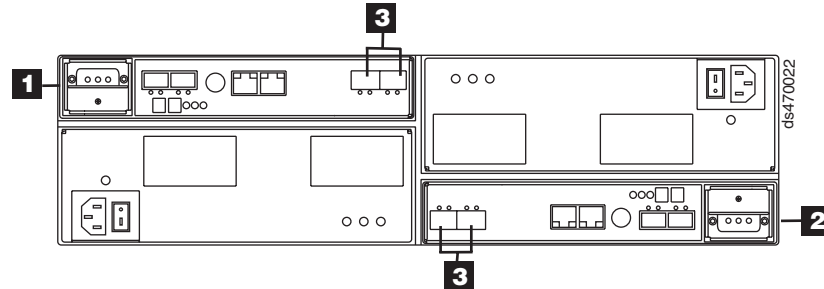
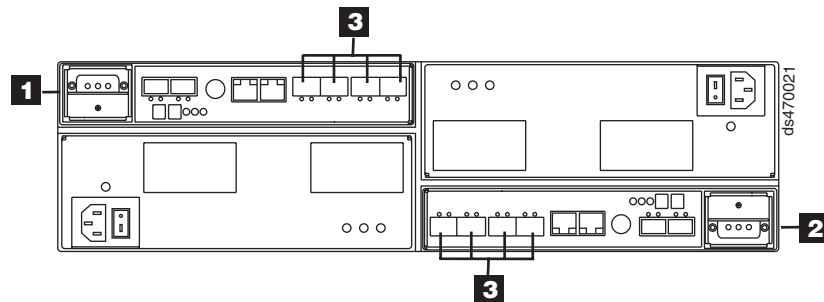

Figure 82. Location of host cables on RAID controllers on model 70 of the DS4700 Express
Figure 83. Location of host cables on RAID controllers on model 72 of the DS4700 Express
- Connect the fibre channel cables from the SFP modules in the DS4700 Express RAID controller host ports to either the SFP modules in the fibre channel switch or the SFP modules of the host bus adapters. Figure 82 and Figure 83 show the location on the RAID controllers on models 70 and 72 of the DS4700 Express Storage Subsystem where the host-system cables connect.